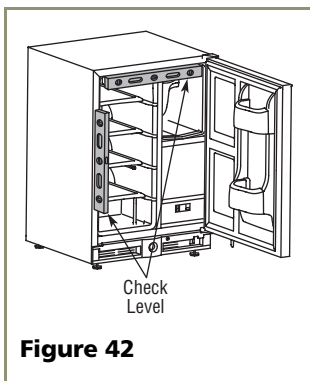

Figure 42
1. Use a level to check the levelness of the ice maker from front to back and from side to side. Level should be placed along top edge and side edge as shown (see **Figure 42**).